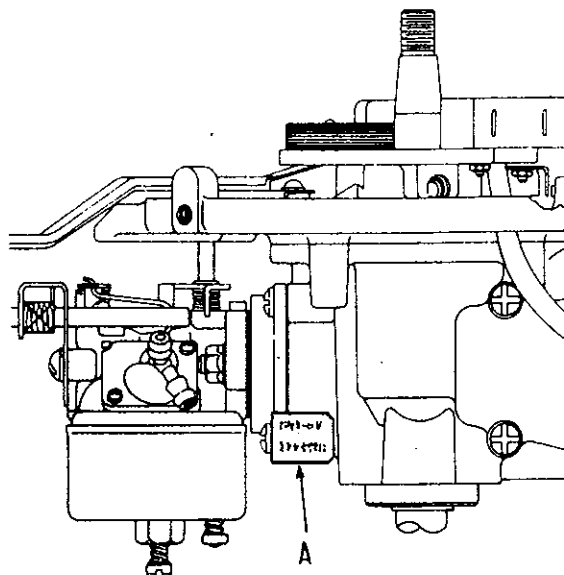
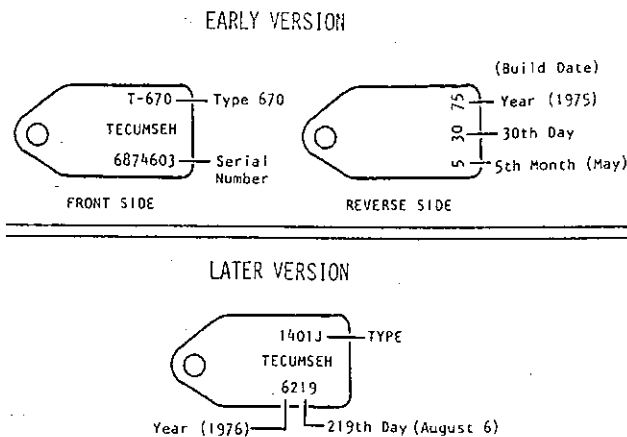

Figure 2. Proper location of engine identification tag (A).
Figure 3. Typical Identification Tag.
- A. The identification of an **ESKA** single-cylinder engine will be found on a tag shown in Figure 2. Refer to Figure 3 for the different tags used and explanation of the build date code. The **TYPE NUMBER** must be included in any parts orders to assure the delivery of correct parts. Always refer to **TYPE NUMBER** in correspondence concerning the engine.